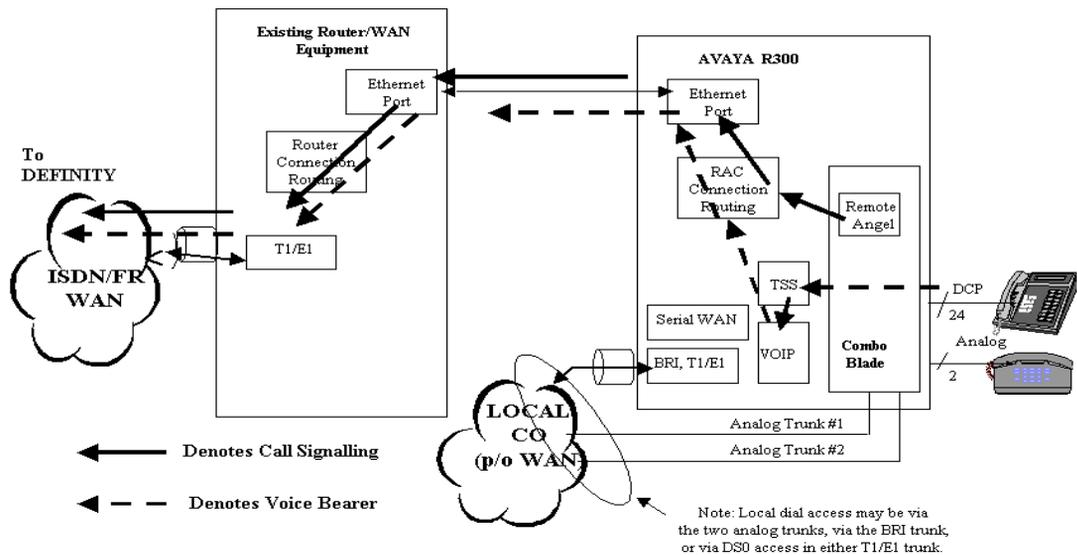

Figure 4. Avaya R300 Co-existing with WAN Access Concentrator
- Connection via its Ethernet port over to the local IP LAN (see Figure 4 on page 8)